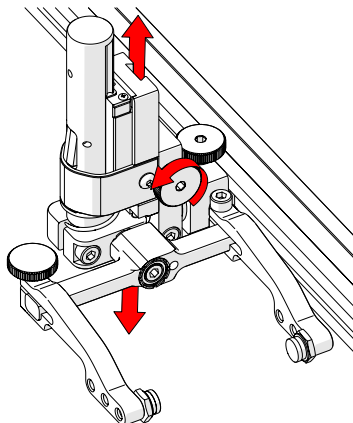

Fig. 63 - Vertical adjustment
2. The vertical adjustment knob allows the vertical probe holder height adjustment (Fig. 63).